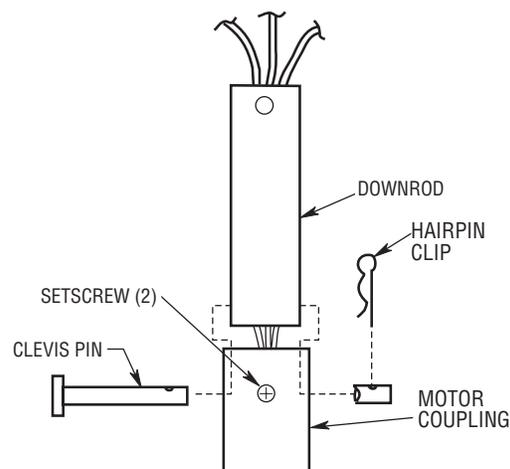

Figure 2
2. Loosen setscrew in motor coupling if necessary. Separate, untwist and unkink the three 80" motor leads. Route the motor lead wires through the downrod. Align the clevis pin holes in the downrod with the holes in the motor coupling. Install the clevis pin and secure with the hairpin clip (Figure 2). The clevis pin must go through the holes in the motor coupling and the holes in the downrod. Be sure to push the straight leg of the hairpin clip through the hole near the end of the clevis pin until the curved portion of the hairpin clip snaps around the clevis pin. The hairpin clip must be properly installed to prevent the clevis pin from working loose. Pull on the downrod to make sure the clevis pin is properly installed.
3. While pulling up on the downrod, securely tighten the two setscrews in the motor coupling (Figure 2).